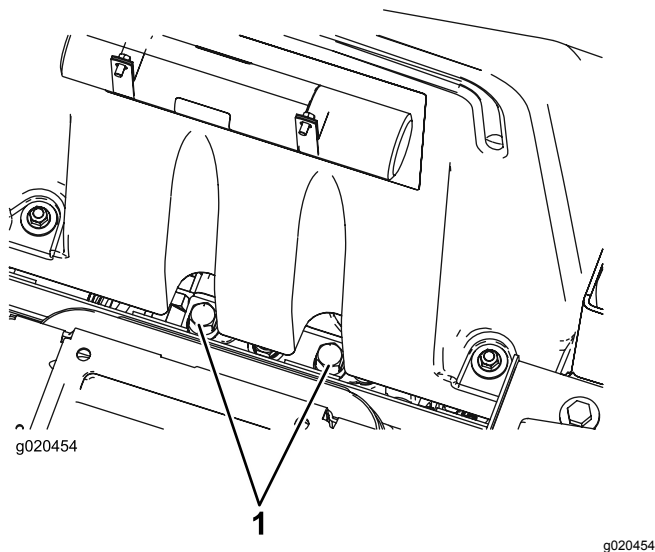

Figure 55
1. Raise the seat and locate the bypass valves, which are located below the front of the fuel tank (Figure 55).